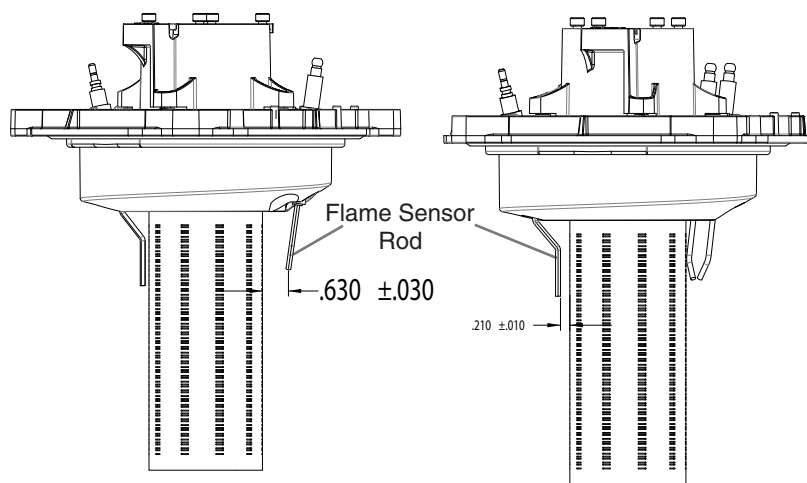
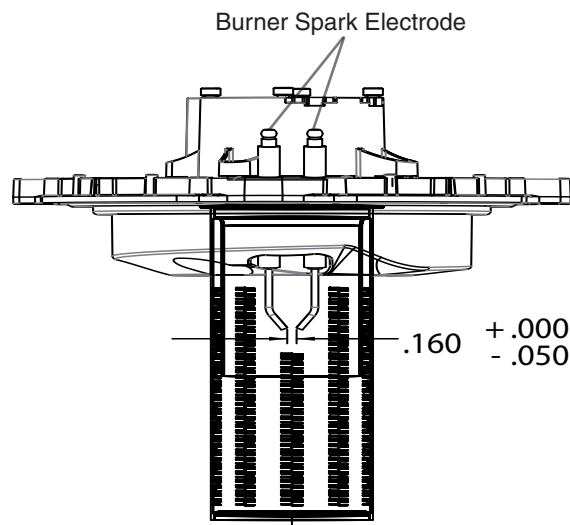

Figure 44. (A) Flame Sensor Rod
Figure 45. (B) Burner Spark Electrode
- The Thermal Insulation must be checked every 12 months, and if necessary be replaced. Inspect the Thermal Insulation for signs of exterior damage to the device. It is recommended to call a qualified service technician to inspect the Thermal Insulation. See Figure 44 and Figure 45.